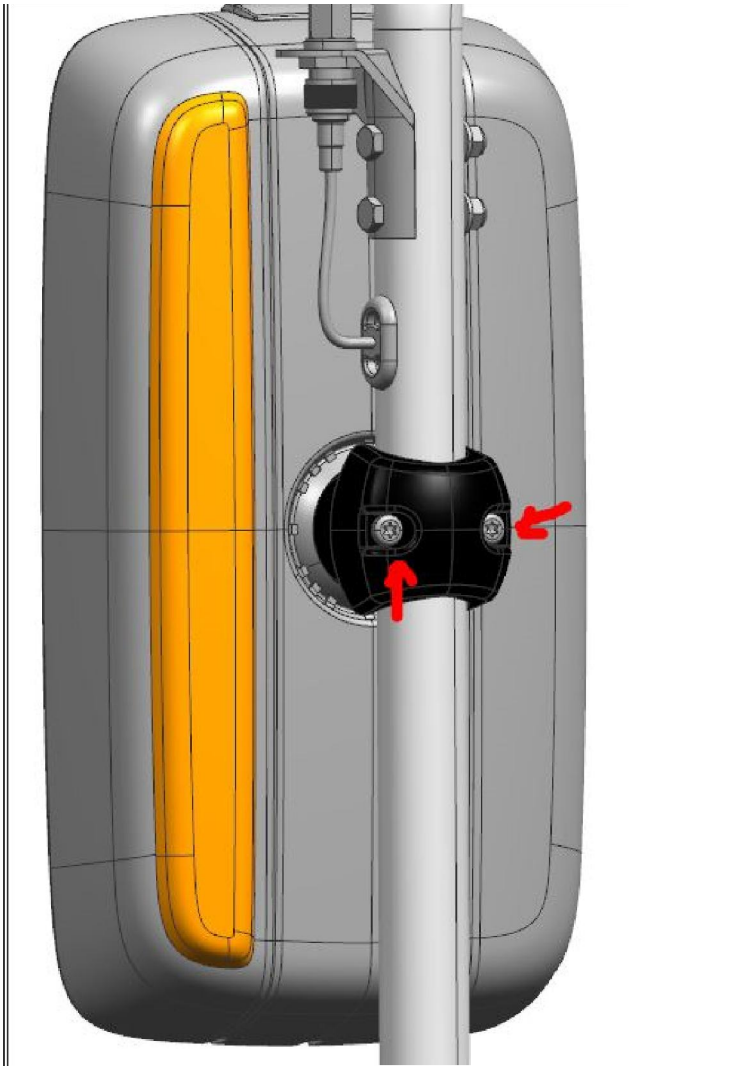

Figure 4: Mirror Head Removal
Step 3: Remove two screws per figure 4 above to remove mirror head from C-loop.
Step 2: While holding the mirror head in place, install the rear half and two screws together with the mirror head support. Ref figure 4.
Step 3: Torque the two screw shown in figure 4 to 10 +/- 1Nm. (88.5 +/- 9 lb-in or 7.3 +/- 0.7 lb-ft)